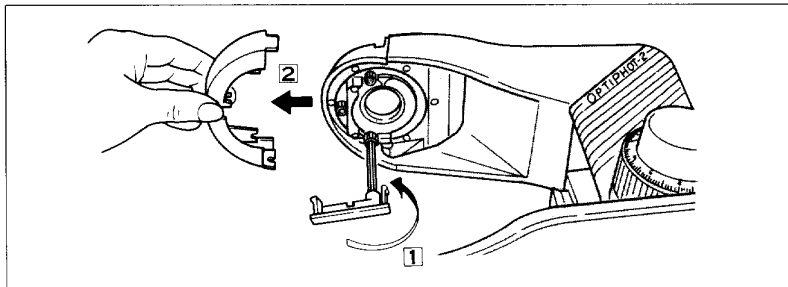

Fig. 2-8
- Loosen the three bolts, with hexagon holes, on the cover of the nosepiece mount using the hexagon wrench ① (see ④) to remove the cover ②.
- Keep the three bolts, however, screwed in (Fig. 2-8).